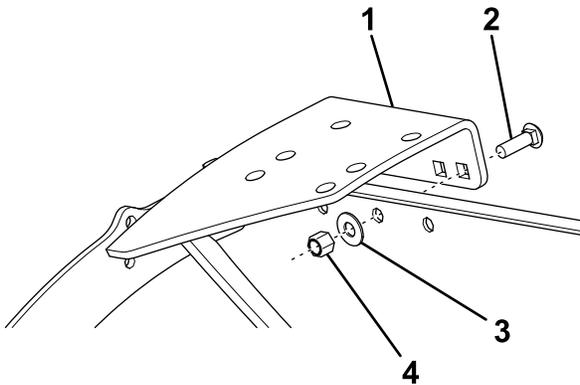

Figure 15
5. Loosely attach the spring bracket base-plate to the plow using a carriage bolt (3/8 inch), washer, and locknut (Figure 15).